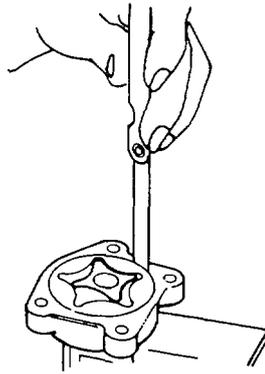

Figure 32 Checking the Outer Rotor to Housing Clearance
- i. Using a feeler gauge, check the clearance between the outer rotor and the pump housing (Figure 32). The clearance should be 0.2 to 0.3 mm (0.008 to 0.012 in). If it is outside this limit, replace the oil pump.